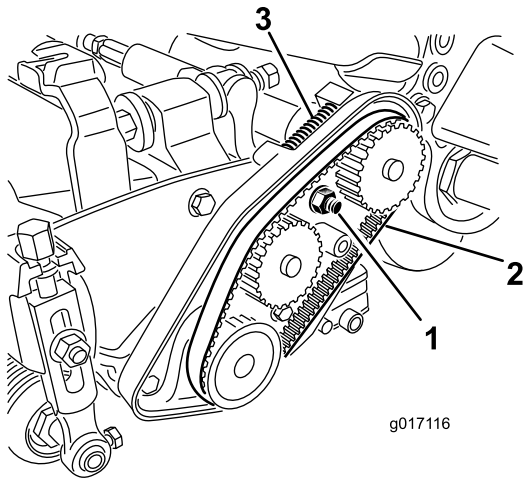

Figure 14
3. Loosen the bearing housing mounting nut (Figure 14).
12. Ensure that the compression spring is applying tension to the belt (Figure 14).
5. Remove the belt (Figure 14).